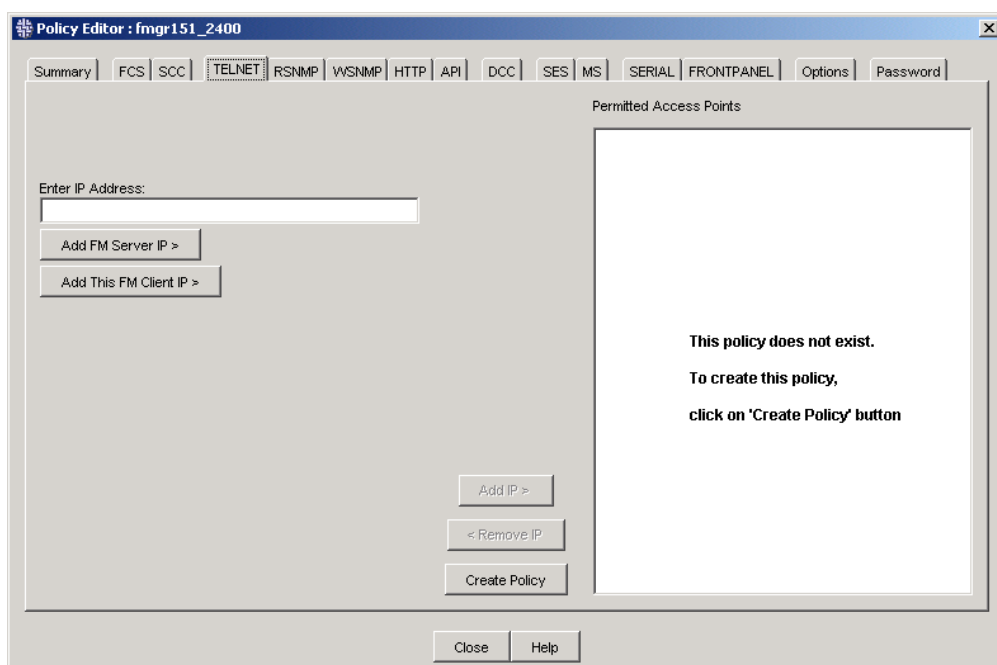

Figure 35: Configuring the Telnet Policy
2. Click the **Policy** tab, where *Policy* is **Telnet**, **RSNMP**, **WSNMP**, **HTTP**, or **API**. The Policy is displayed. Figure 35 shows the **Telnet** policy tab as an example.